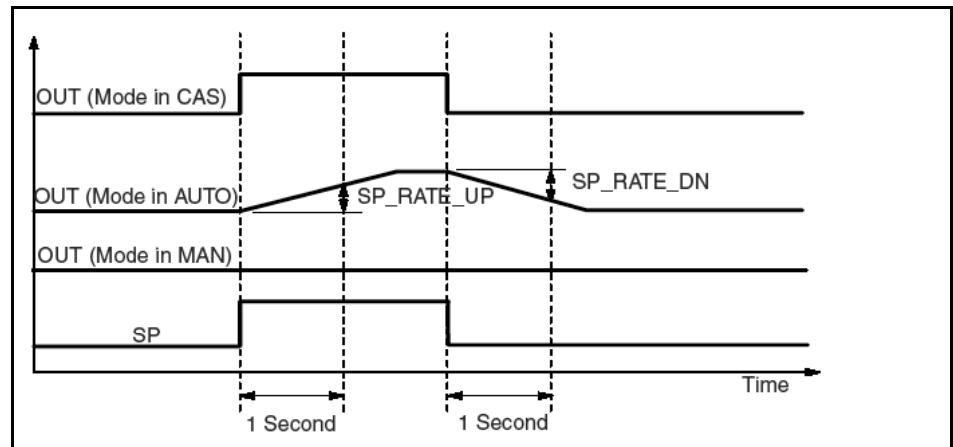

Figure 5-4 Analog Output Function Block Timing
The analog Output (AO) function block assigns an output value to a field device through a specified I/O channel. The block supports mode control, signal status calculation, and simulation. The following table lists the definitions of the system parameters. AO block timing is illustrated in Figure 5-4 on page 46.